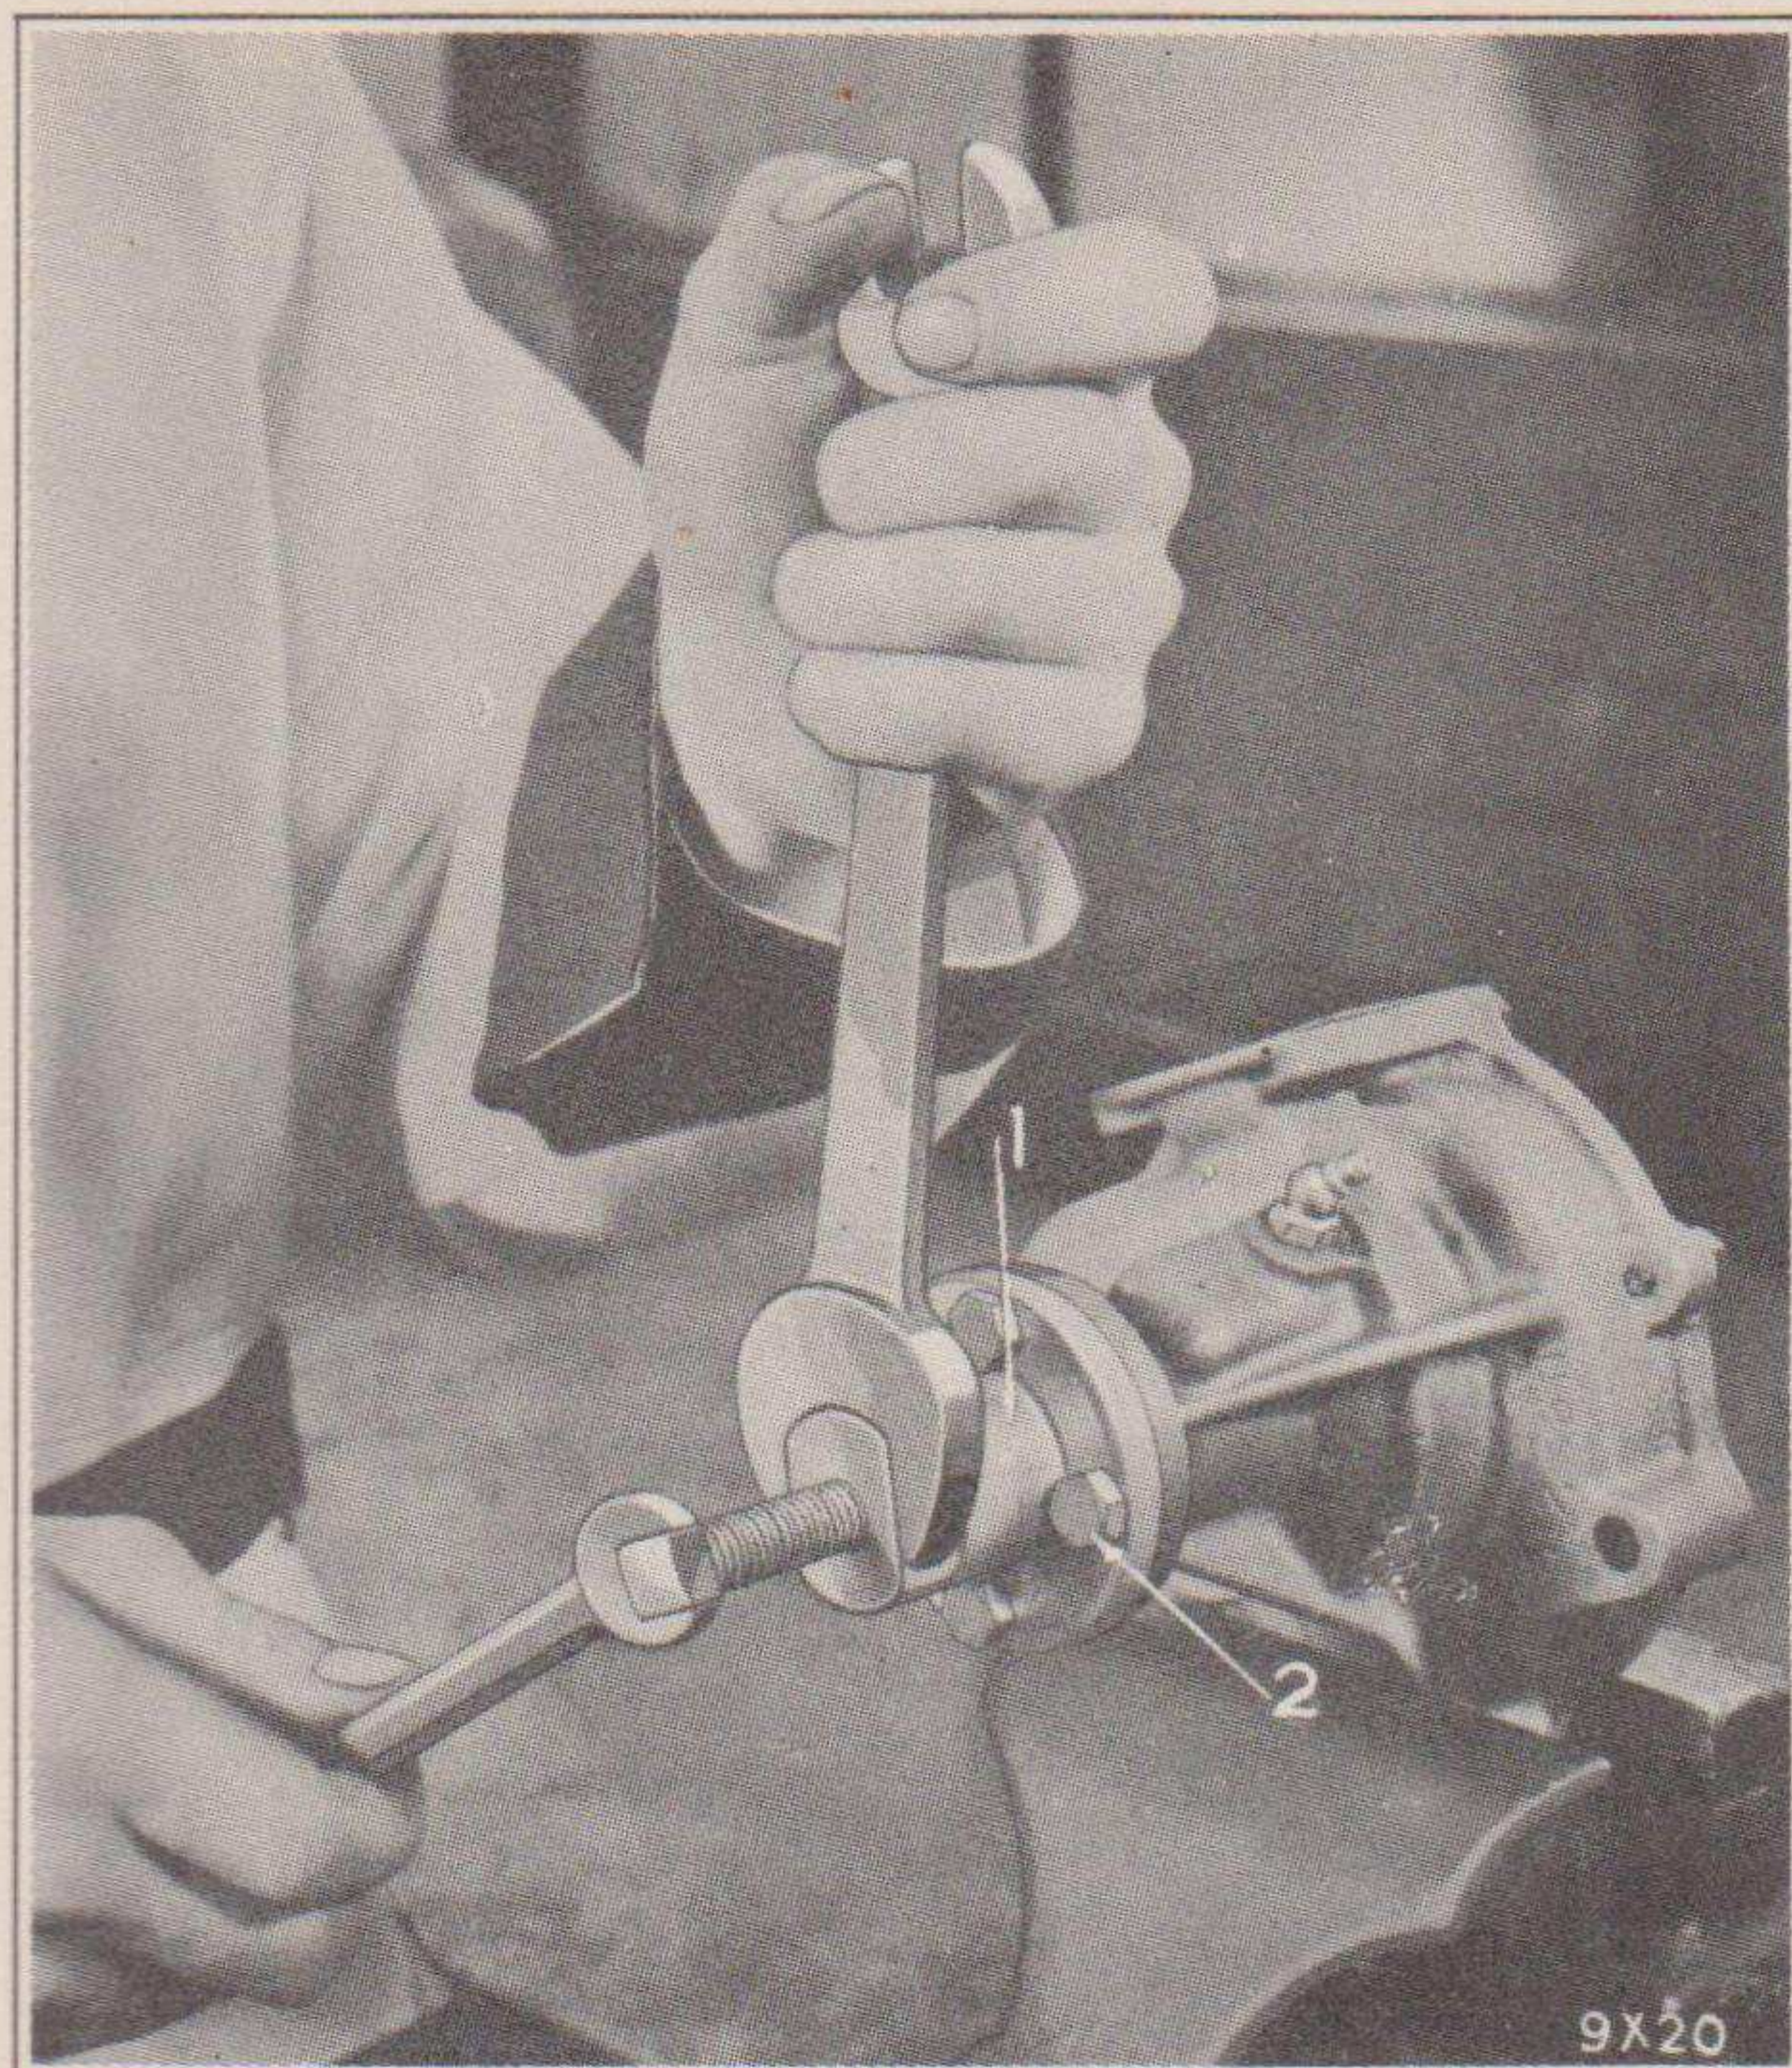

Fig. 101—Pulling Hub from Water Pump Shaft
- (b) Pull the hub off the shaft with puller, C-412, as shown in Fig. 101.